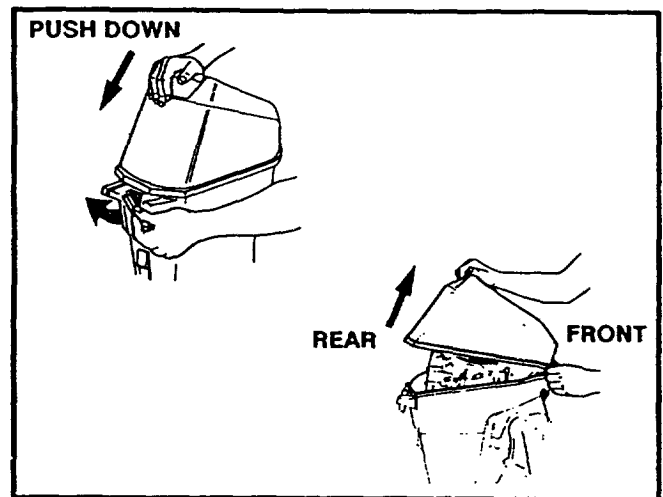

FIGURE 20
- Push down hard on cover and turn cover release lever on rear of motor. (Figure 20)